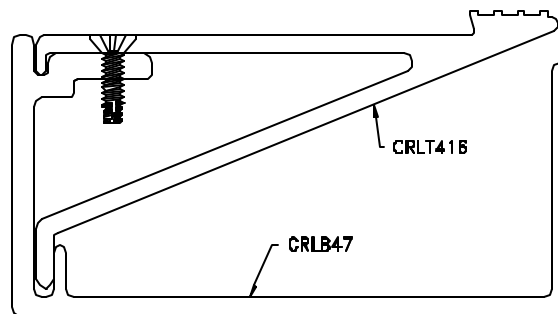

Figure 4
- STEP 5.** Select a section of the Subchannel Assembly (see Figure 4), and disassemble the Subchannel Assembly. Ensure that the base member, mating cover member and the screws are kept together, as they will need to be reassembled later.